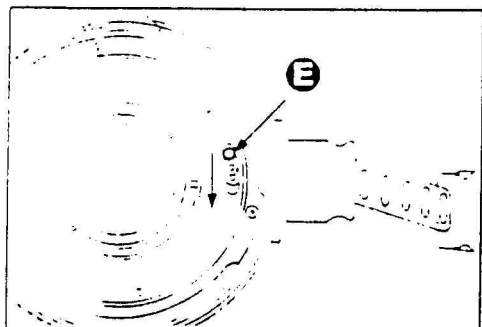

Fig.3
3. Have the lens for inspection set at an optional shutter speed, and release the shutter (E). (See Fig. 3.)